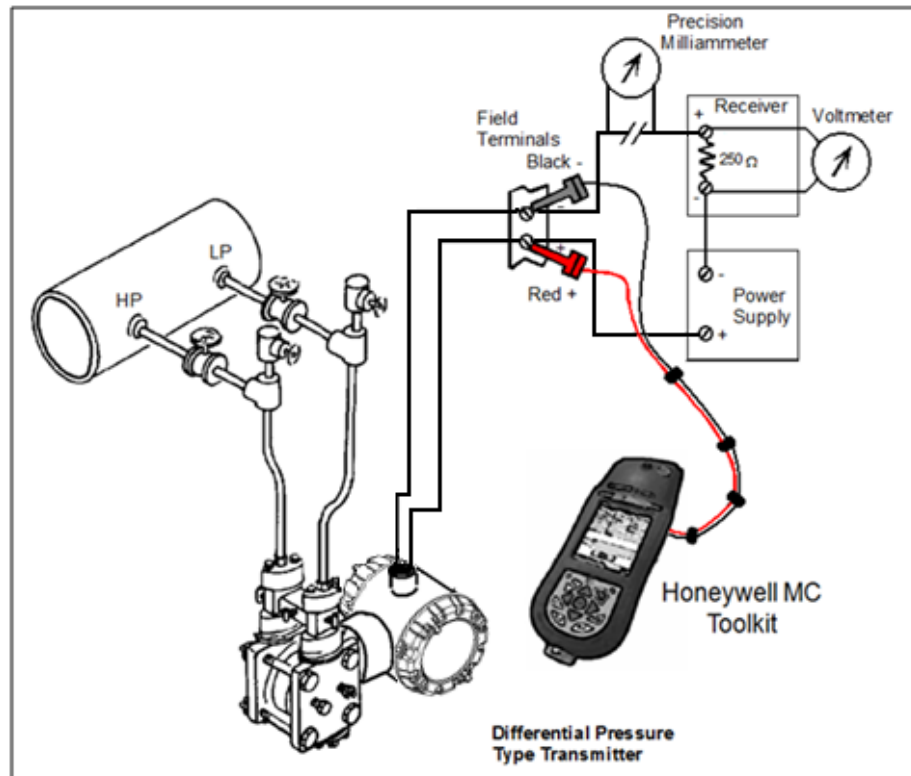

Figure 16 – ST 700 Standard Transmitter - Current Loop Test Connections
1. Refer to Figure 16 for test connections. Verify the integrity of electrical components in the output current loop.